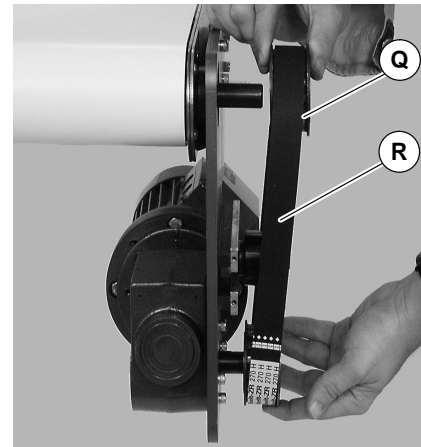

Figure 20
- c. Remove pulley (Q of Figure 20) and timing belt (R).